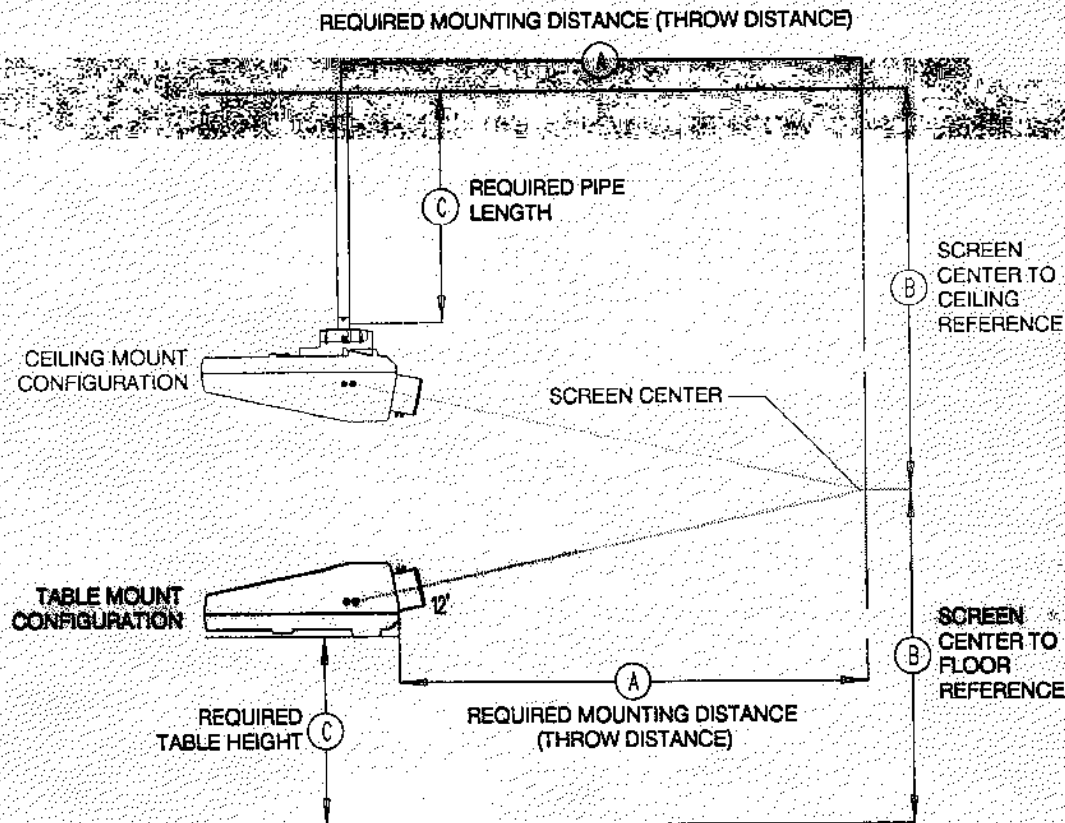

FIGURE 5-10. INSTALLATION MEASUREMENTS.
5.8.1 MOUNTING DISTANCE DEFINITIONS: Refer to figure 5-10